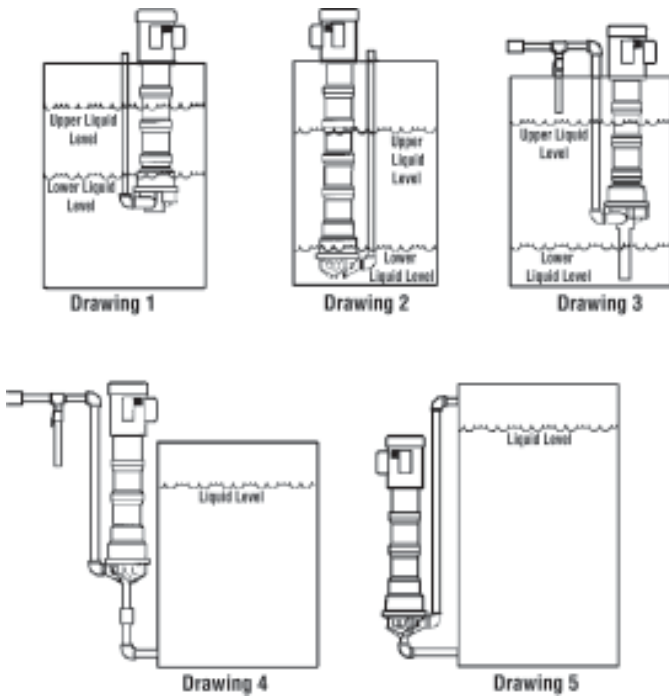

Figure 1
The VKC Series is a versatile pump designed to be operated in a variety of mounting configurations. The pump can be mounted either inside or outside of a tank or sump. See Figure 1.
6. If a check valve is installed in the discharge piping, an air bleed must be installed in the discharge line to prevent air lock. This allows air trapped in the pump internals to be removed on initial start-up. See drawings 3 and 4 in Figure 1.
- ▲ **CAUTION:** To stop the pump if prime is lost, use one of the following: (1) pressure switch on the discharge or (2) motor minder to monitor motor current.